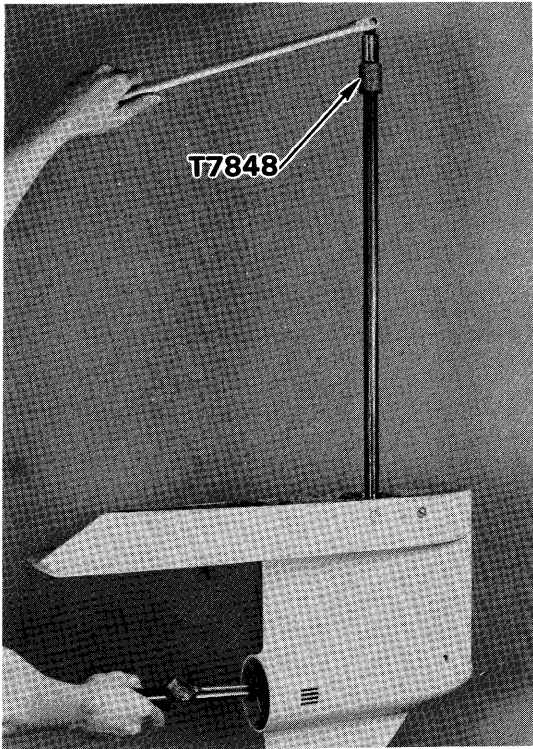

Figure 19—Removing Bevel Pinion Nut
- B. Remove pinion nut using a 3/4" socket and torque wrench (Special Tool T2998). Place socket over pinion nut, and spline adapter (Special Tool T7848) over end of driveshaft spline, rotate driveshaft to remove pinion nut. See figure 19.